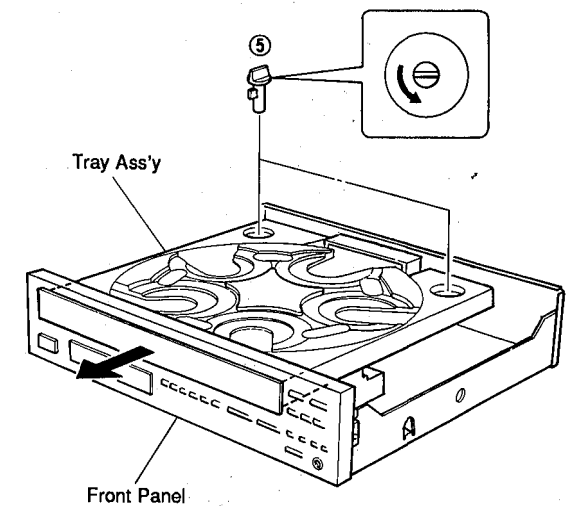

Fig. 6
a. Turn the stopper/tray pin (⑤) counterclockwise by 90° degrees to pull it out as shown in Fig. 6.
b. Slowly remove the Tray Ass'y as shown in Fig. 6. Remove connector #4 from the Main Circuit Board.